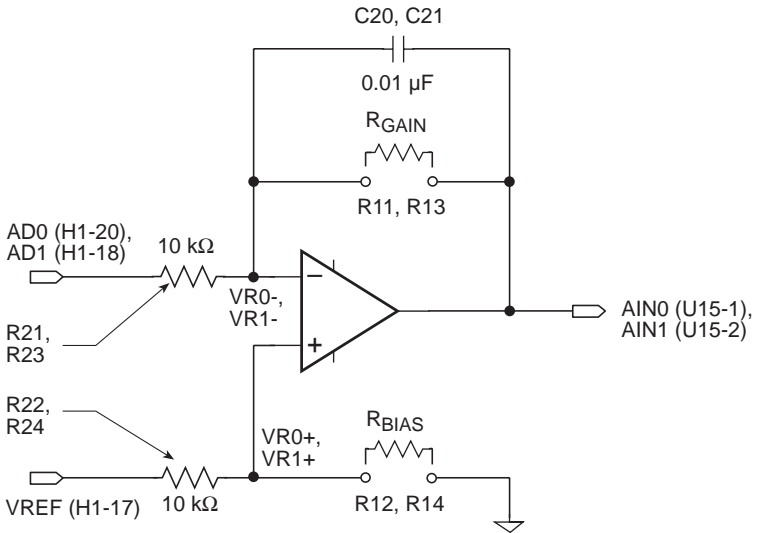

Figure 3-10. Gain and Bias Resistors for Conditioned Analog Inputs
- The ratio of the user-specified gain resistor R_{GAIN} ($R11$ or $R13$) to its associated fixed input resistor ($R21$ or $R23$) determines an amplifier's gain. For the amplifier in Figure 3-10 with its input resistor fixed at $10 \text{ k}\Omega$, the gain is